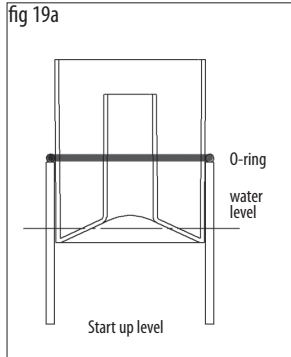

fig 19b
- For aquariums with heavy stocking or for dark foam/skimate, lift the collection cup and lower the o-ring gradually as shown in figure 19b
**Attention:** It is advisable to adjust the collection cup by small movements, one at a time (2/4mm – 1/8/1/4 in). For every adjustment you need a few hours before verifying if the foam suits the needs. Repeat this operation until you reach the correct setting without going beyond the min and max level shown in fig. 19b and fig.19c
- Excess foam production: adjust by lifting the collection cup and lowering the o-ring gradually as shown in fig.19b. Check airflow and if necessary, reduce.